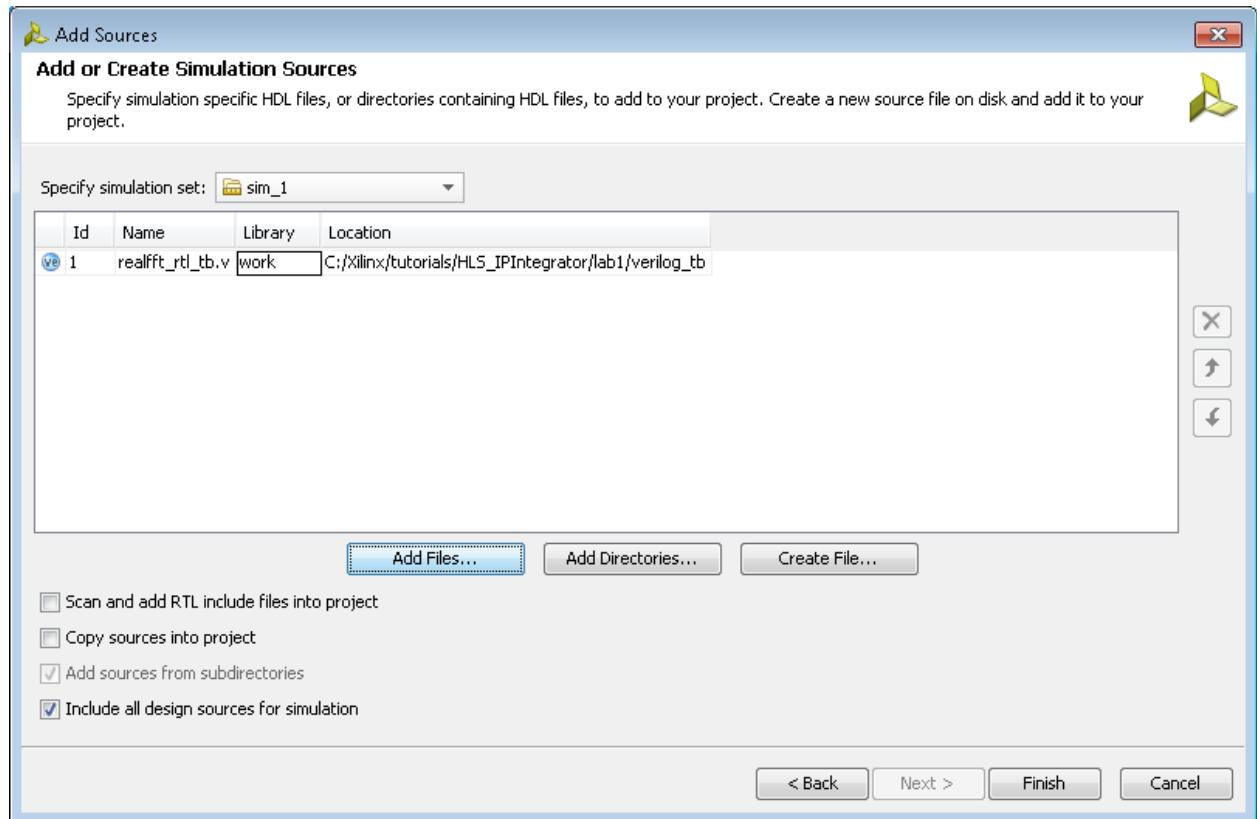

Figure 215 Copy Design Sources
5. In the Add Sources dialog box, click on the Add Files button highlighted in Figure 215.
8. Select to copy sources into the project (Figure 215).